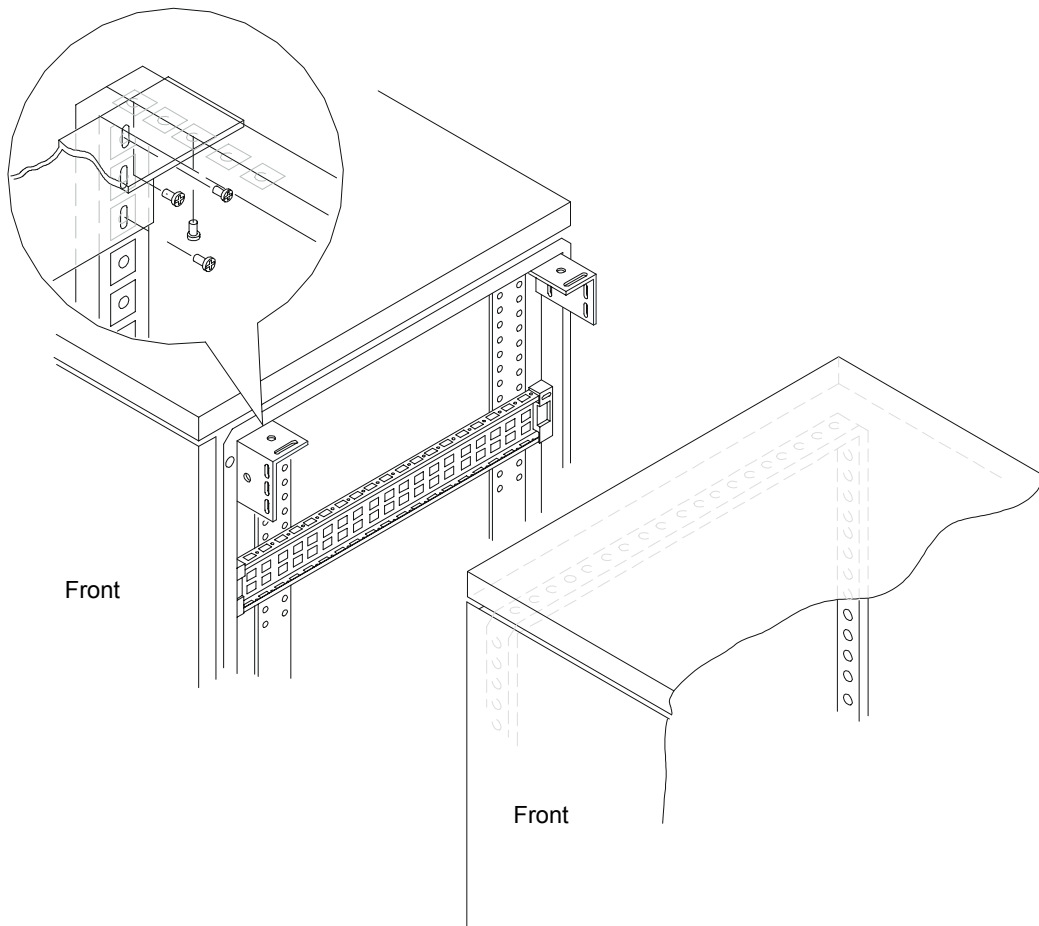

Figure 4-7. Rack Frame Link Kit Installation
1. Position the two rack cabinets next to each other as shown in Figure 4-7. Ensure the front of each rack is facing in the same direction.
2. Position a link angle bracket in the upper front corner of the left cabinet and secure it to the cabinet with two Phillips-head screws. See Figure 4-7.